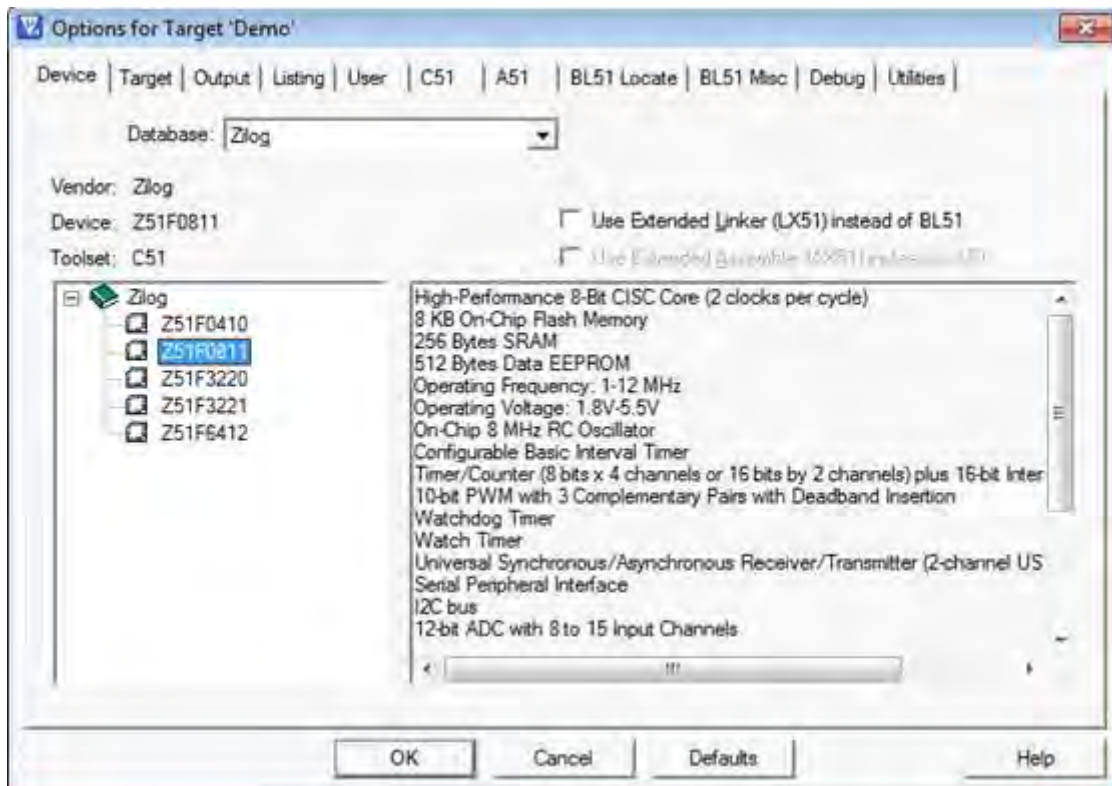

Figure 22. Selecting the Target
5. In the Options for Target 'Demo' dialog that appears, click the **Device** tab and ensure that your target is properly selected for your project, as illustrated in Figure 22.